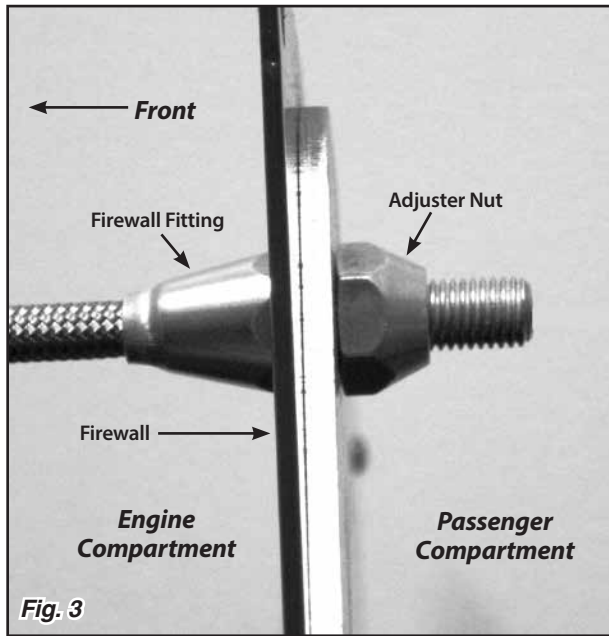

Fig. 3
Step 4: On the other end of the cable housing, remove the adjuster nut from the firewall fitting. Insert the firewall fitting through the firewall from the engine side, and reinstall the adjuster nut. **Fig. 3**